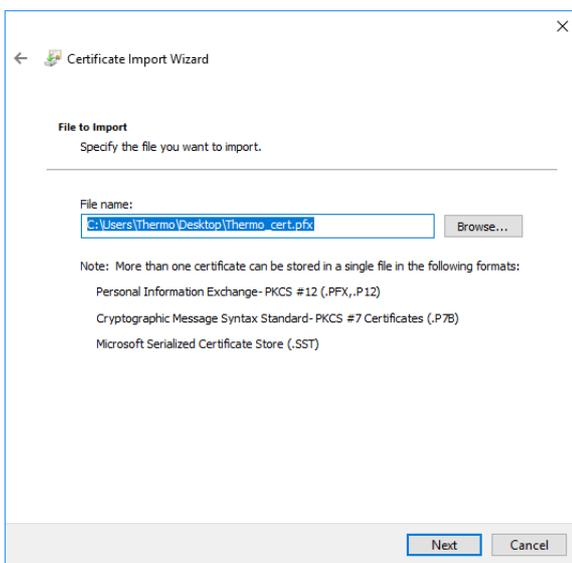

Figure 2-47. Selecting PFX file
5. In the wizard, select the PFX file, see Figure 2-47.